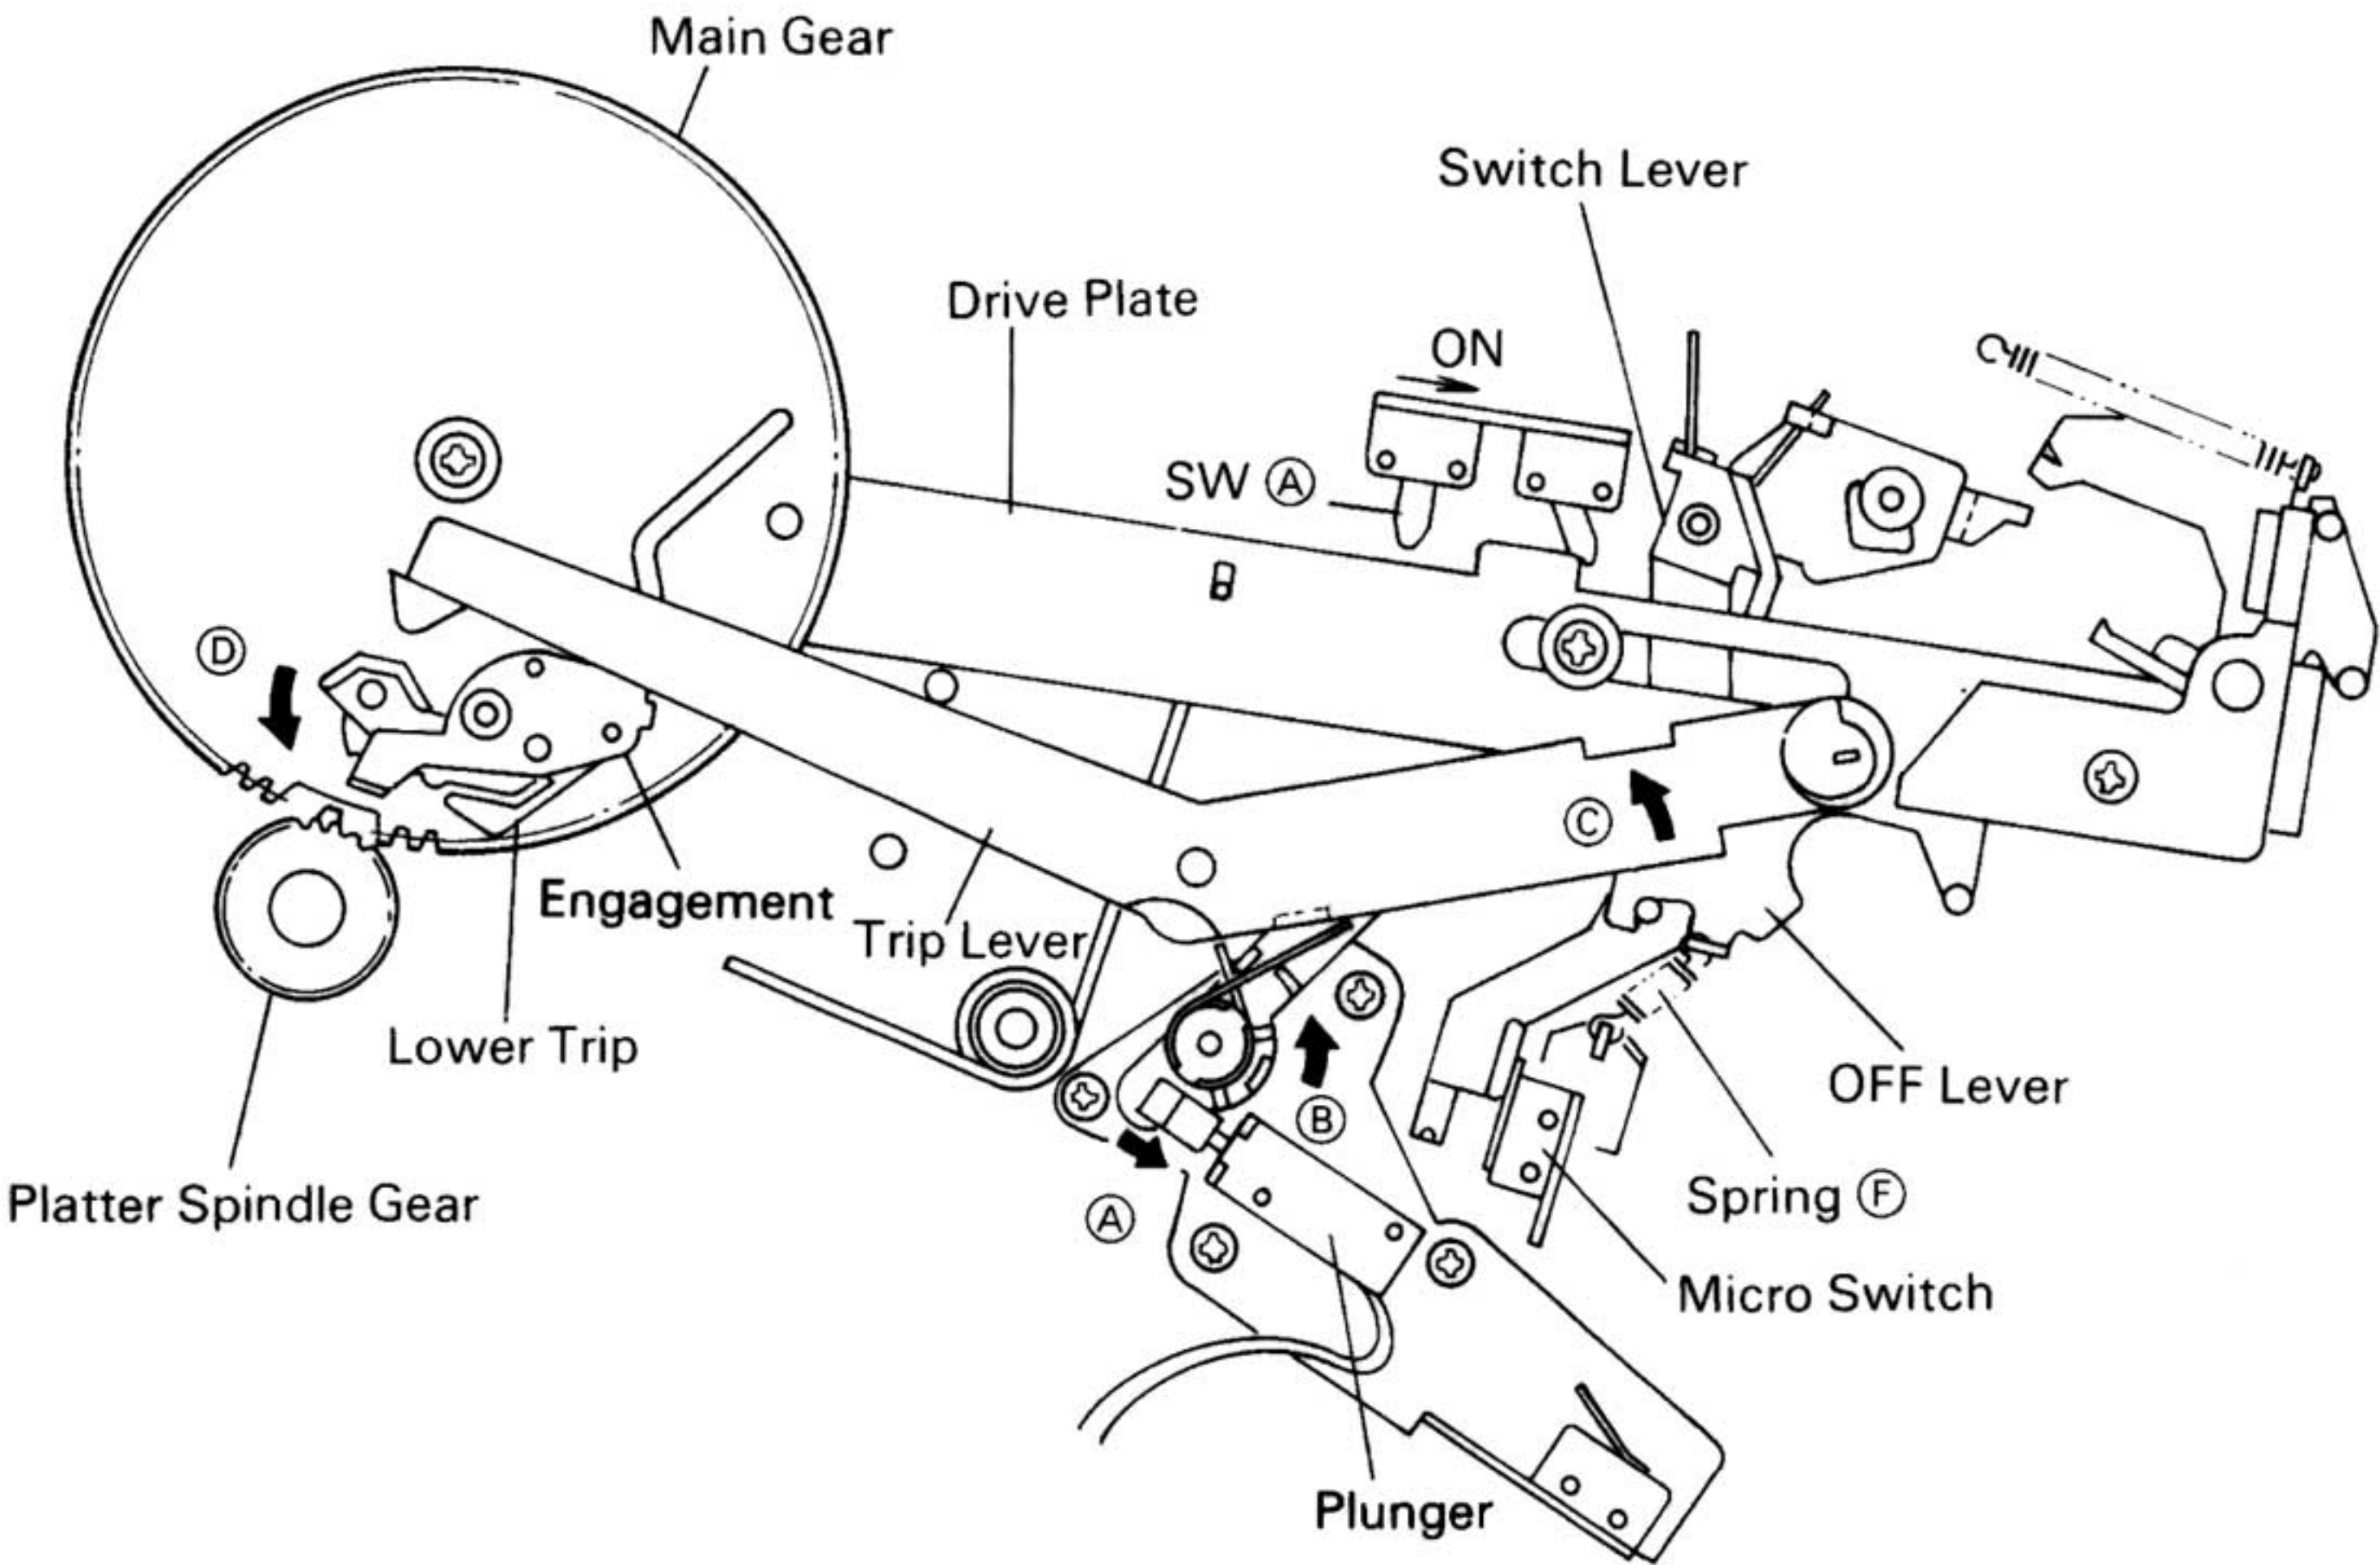
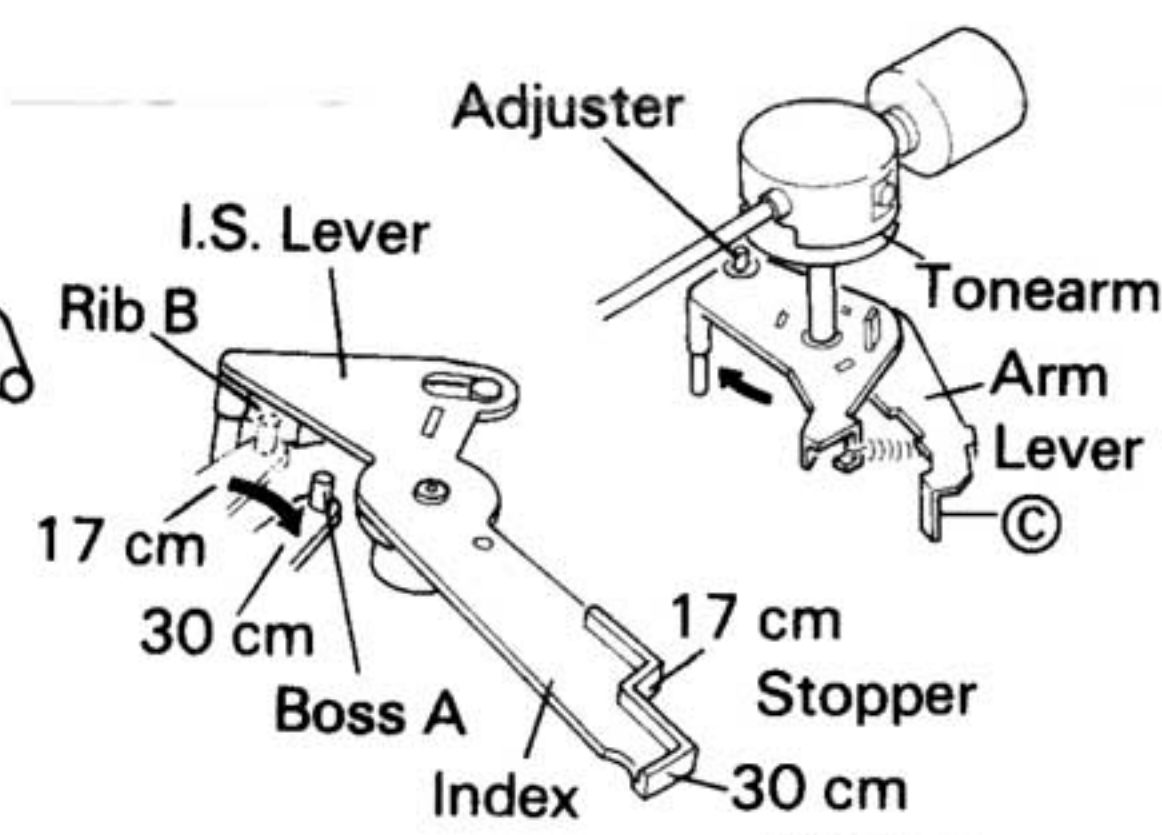

Fig. 1
Fig. 6
As the trip lever moves the engage in the direction of ④ and the platter spindle gear and main gear are engaged, the change cycle is started and the lead-in operation starts. (Fig. 1)
When the size of the record is 17 cm, as the plunger is pulled until switch A turns ON, boss A remains in the 17 cm record mode. (Fig. 1) (Fig. 6)